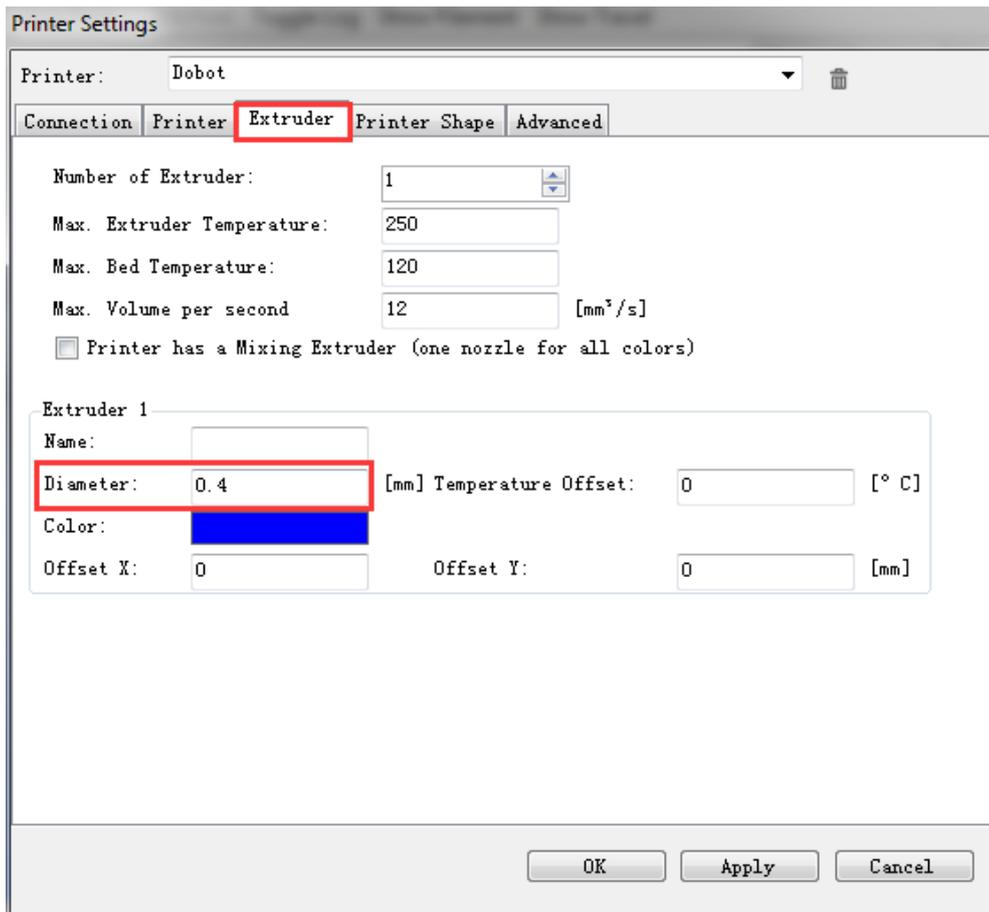

Figure 5.131 Extruder settings
- Set the corresponding parameters on the **Extruder** tab as shown in the red box of Figure 5.131, the other parameters are set by default. Then, Click **Apply**.